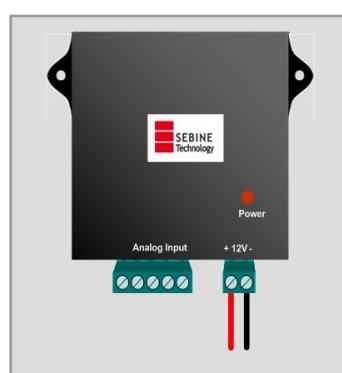

Figure9. Power Supply-3
- ③ As shown in Figure 9, connect the terminal to power port of W210A, Make sure the direction is exact as shown in Figure 9.